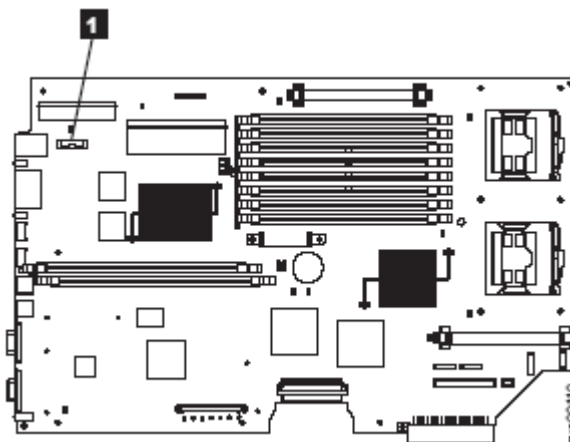

Figure 1. Location of the CMOS battery on the SAN Volume Controller 2145-8F2
1. Insert the new battery in the battery socket [1]. See Figure 1.